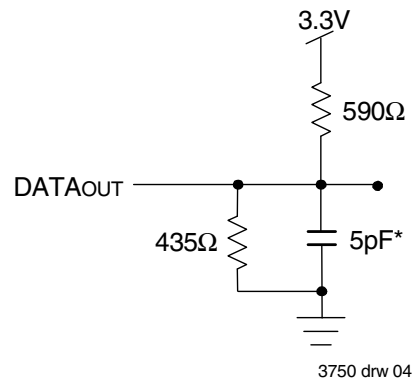

Figure 2. Output Test Load
1. Transition is measured 0mV from Low or High-impedance voltage with the Output Test Load (Figure 2). This parameter is guaranteed by device characterization, but is not production tested.
- Transition is measured 0mV from Low or High-impedance voltage with the Output Test Load (Figure 2). This parameter is guaranteed by device characterization, but is not production tested.
1. Transition is measured 0mV from Low or High-impedance voltage with the Output Test Load (Figure 2).